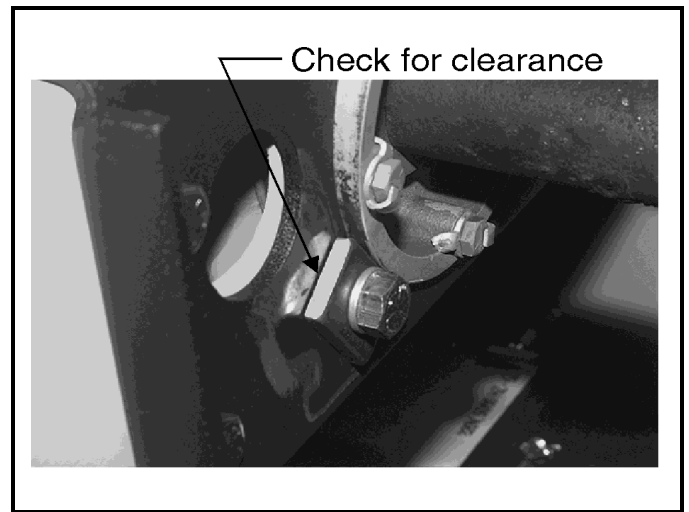

FIGURE 7 (MSSM0708BE)
9. Tighten bolts. Insure there is approximately .0625 inch (1.6 mm) clearance between the alignment washers and the console as shown in FIGURE 7. Add or subtract shims as required to obtain the specified clearance. Weld the new alignment washers to the console.
7. Tighten bolts. Insure there is approximately .0625 inch (1.6 mm) clearance between the alignment washer and the reinforcing plate as shown in FIGURE 7. Add or subtract shims as required to obtain specified clearance. Weld the new alignment washers to the reinforcing plate.